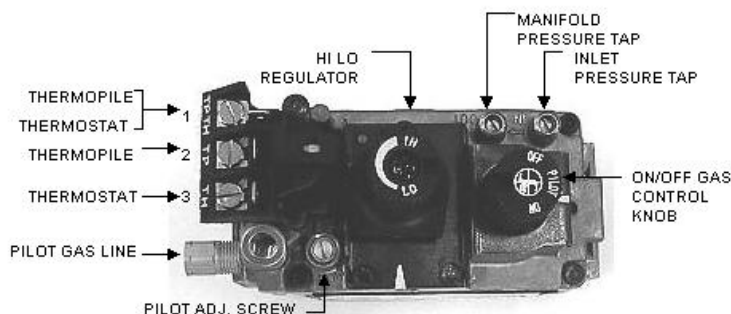

FIGURE 19: Millivolt Readings
1. Turn off gas supply at the appliance service valve. Identify the Pressure Regulator on the Valve Body, see Figure 19 on PAGE 29.